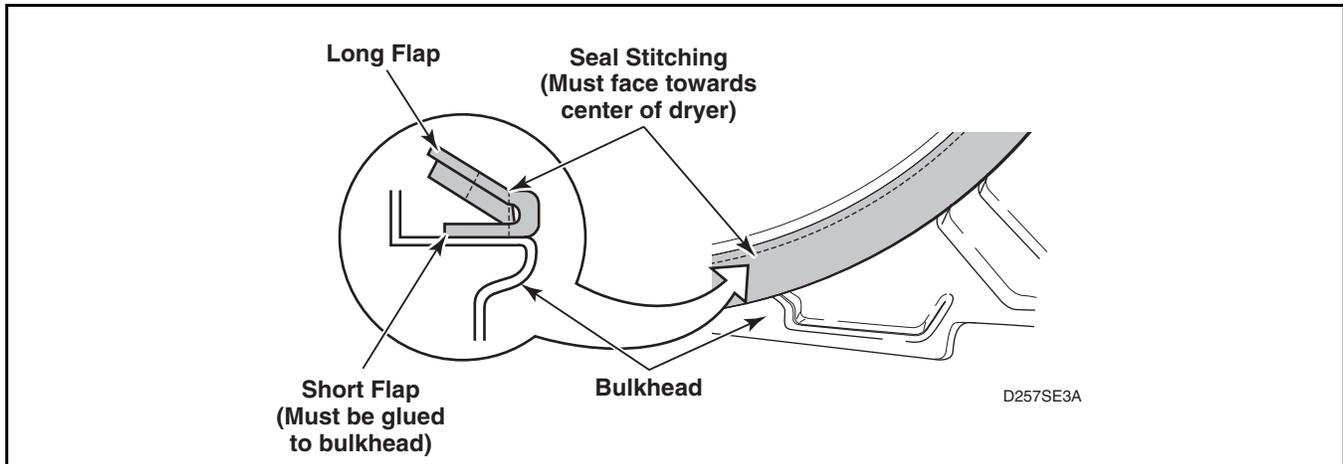

Figure 33
k. **Front Cylinder Seal.** Refer to *Figure 33*.
- (1) The stitching on the seal must face towards the dryer center. Refer to *Figure 33*.
- (2) The short flap, shown in *Figure 33*, must be glued to the bulkhead and the long flap left loose.